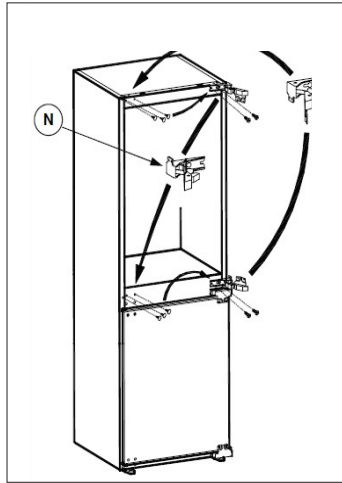

Fig. 18
2. Open the upper (M) and lower (N) door hinge and loosen the screws according to Fig. 18 and remove the hinges.
3. After removing the hinges, move the blind plugs to the other side (Fig. 18).
4. Place the upper (M) and lower (N) door hinge to the opposite side (see Fig. 18).